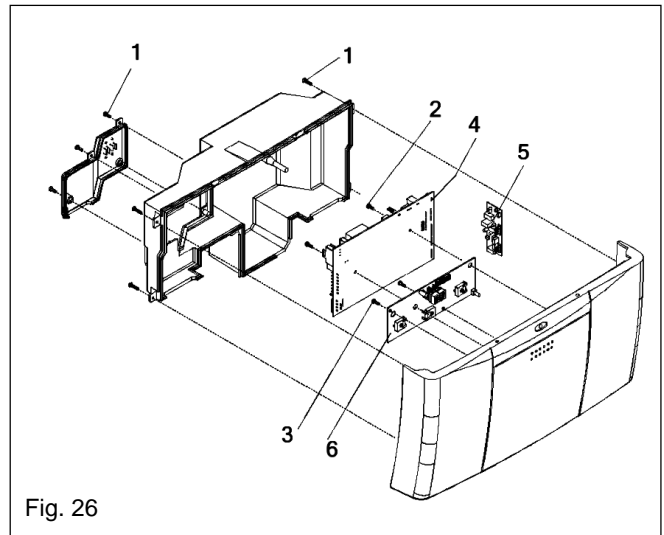

Fig. 26
**6.12 PRINTED CIRCUIT BOARD (see fig. 26)**